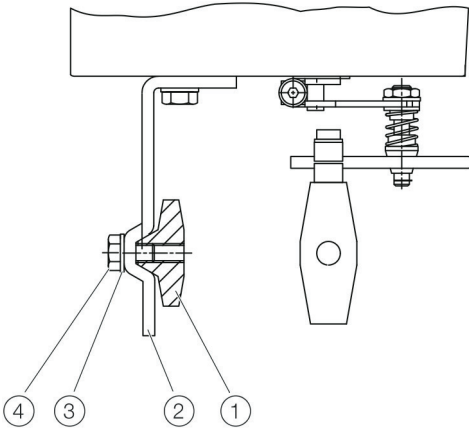
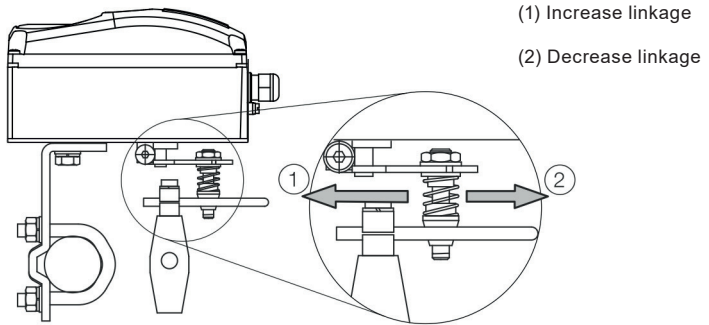

Fig. 7
Fig. 9
1. Attach the lever (6) to the feedback shaft (5) of the positioner (can only be mounted in one position due to the cut shape of the feedback shaft).
2. Using the arrow marks (4), check whether the lever moves within the operating range (between the arrows).
3. Hand-tighten the screw (7) on the lever.
Tighten the screws as evenly as possible to ensure subsequent linearity. Align the mount bracket in the oblong hole to ensure that the operating range is symmetrical. Set the valve mid stroke and align the lever horizontal (item 4 Fig. 7) then tighten mounting bolt (item 4 Fig. 10) (lever moves between the arrow marks Item 4 Fig. 9).